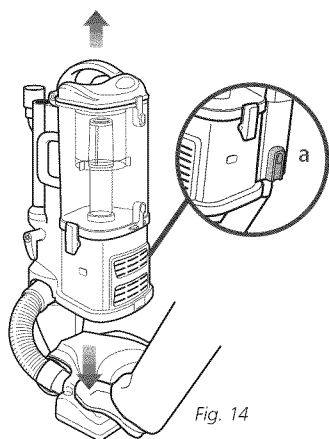

Fig. 14
- 1 Separate the portable *Lift-Away*® canister from the floor nozzle by pressing the red release button (a) on the side of the canister. Gently hold the nozzle to the floor with your foot and pull the canister up.(Fig. 14)